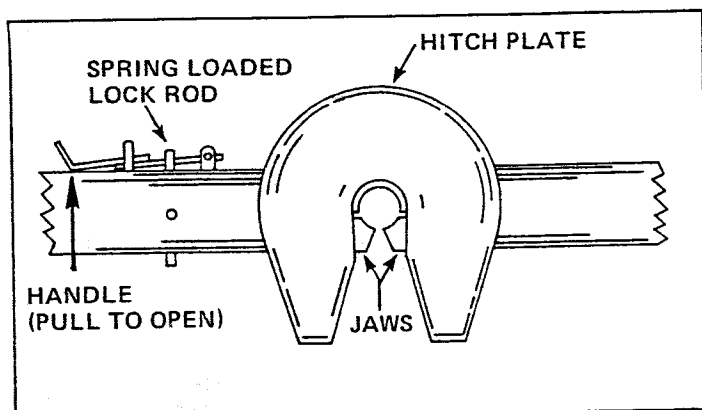

FIG. 6
**HITCHING** — Lower or remove the truck tailgate. Release the plate jaws by pulling the handle until a snap is heard (FIG. 6). Back up the truck until the pin is caught by the jaw plates, another snap will be heard. Check the release handle and the spring loaded lock
**HITCH** — Check the release handle and the spring loaded lock rod. *The rod must hold the handle against the hitch plate base (FIG. 6).*
Disconnect the electrical pigtail connection and break-away cable from the towing vehicle. Pull the release handle and move vehicle out of the way (FIG. 6).